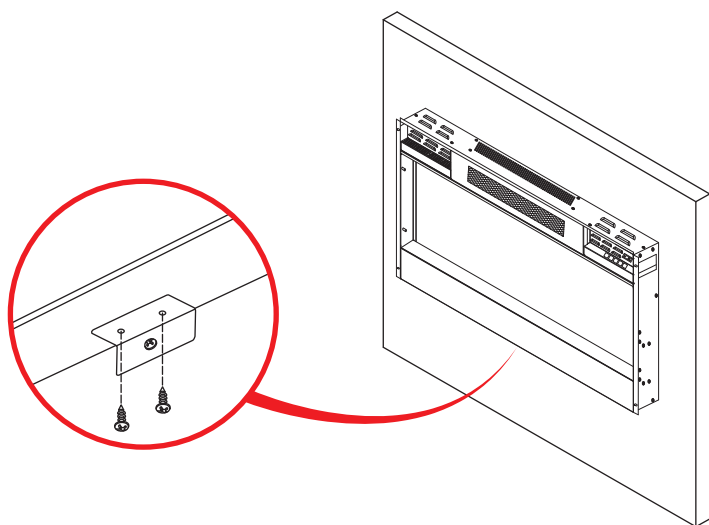

Figure 7
- J. Use two M4 x 8mm Screws (E) to secure the bracket to the bottom of the fireplace. [Figure 7]